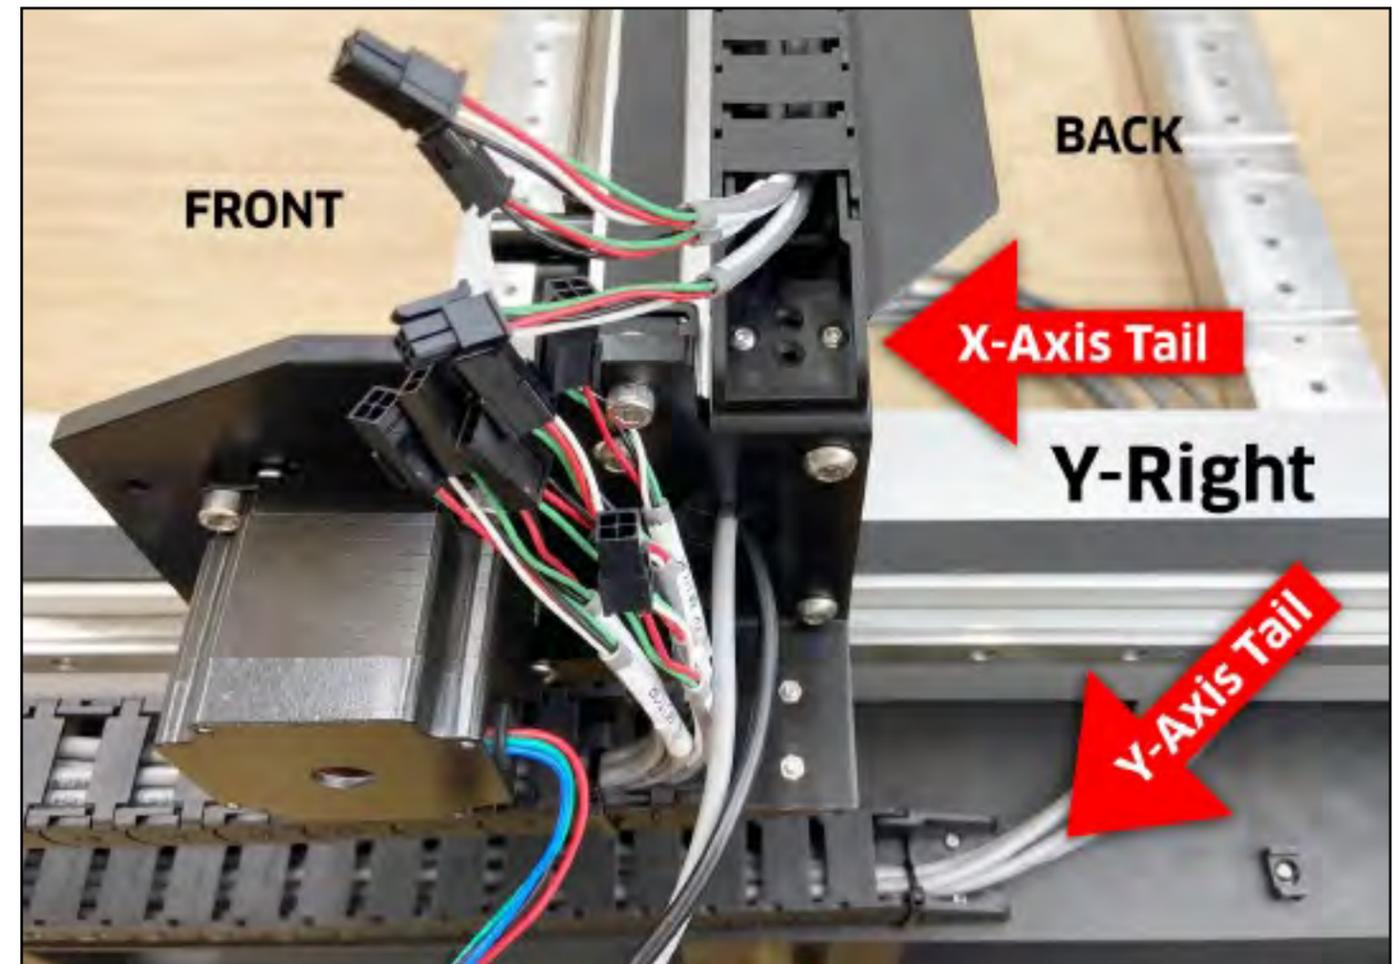

Figure 6-6
1. Position the tail of the X-Axis drag chain over the two M3 screw holes at the top of the X/Y transition bracket. **See Fig. 6-6.**
2. Use a 2mm hex key and two (2) M3×6mm BHCS to secure the tail of the X-Axis drag chain to the bracket. Fully tighten.
3. Position the tail of the Y-Axis drag chain over the two M3 screw holes on the Y-Right drag chain support panel. **See Fig. 6-6.**
4. Use a 2mm hex key and two (2) M3×6mm BHCS to secure the tail of the Y-Axis drag chain to the support panel. Fully tighten.